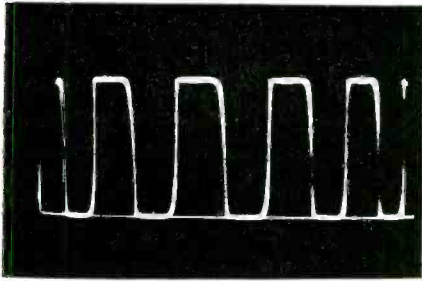

Fig. 1—Example of comparatively fast rise time.
A. The rise time of a square wave is the time which is required for the voltage to rise from 10% to 90% of its final value. Rise time accounts for the elapsed time in developing 80% of the leading edge of the wave. This convention is adopted in the trade in order to avoid confusion which would be caused by widely variable end effects during the initial and final 10% of the leading-edge excursion. Fig. 1 shows a reproduced